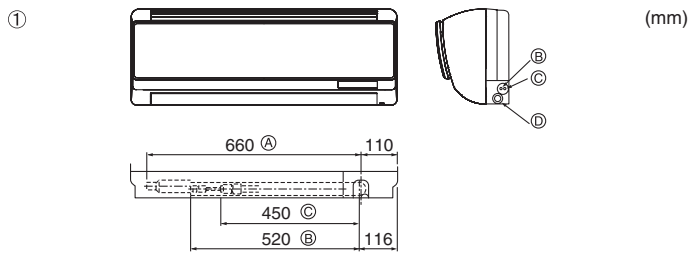

Fig. 4-2
- ① Position of refrigerant and drain piping (Fig. 4-2)
- (A) (Total length of flexible hose)
- (B) Liquid pipe
- (C) Gas pipe
- (D) Drain hose